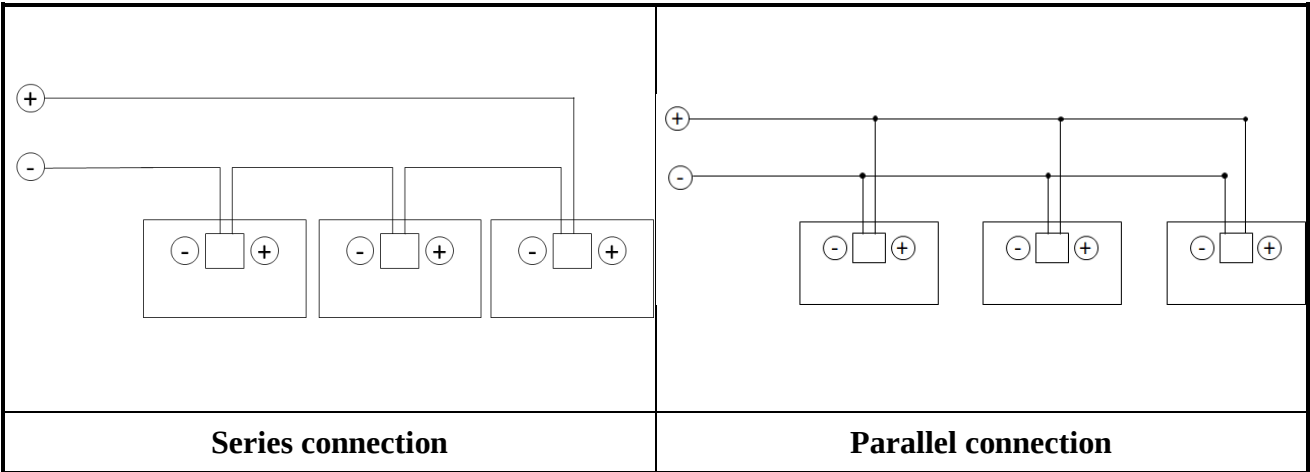

Figure 5 Series/Parallel Circuit Electrical Diagram
- For PV modules in series, the total voltage equals the sum of individual module voltages; for parallel connections, the total current is the sum of individual module currents. As illustrated in Figure 5, different module types cannot be mixed within a single string.